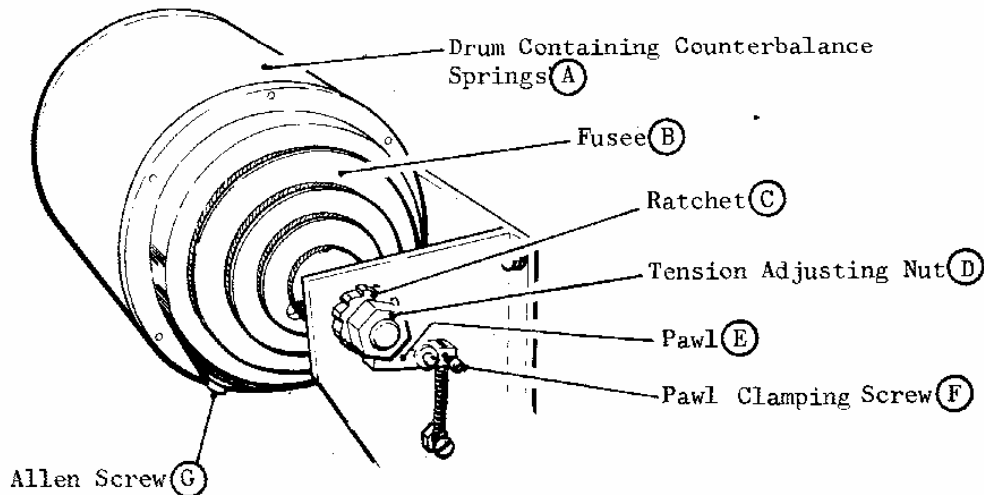

Fig 59 Counterbalance Unit.
2. If the counterbalance cable is intact, the counterbalance unit (Fig 59) must now be unwound so that the cable is JUST slack. The number of turns made must be counted (usually 28 to 30) so that the unit can be reset for the original cable tension.
Undo the screw securing the pawl of the counterbalance unit, (F) in Fig 59, so that the pawl is free to move.
5. Lay, or wind, the new cable into the groove of the fusee (B) (Fig 59), being careful not to tighten or loosen the counterbalance springs, and secure the cable end with the Allen screw and washer (G).